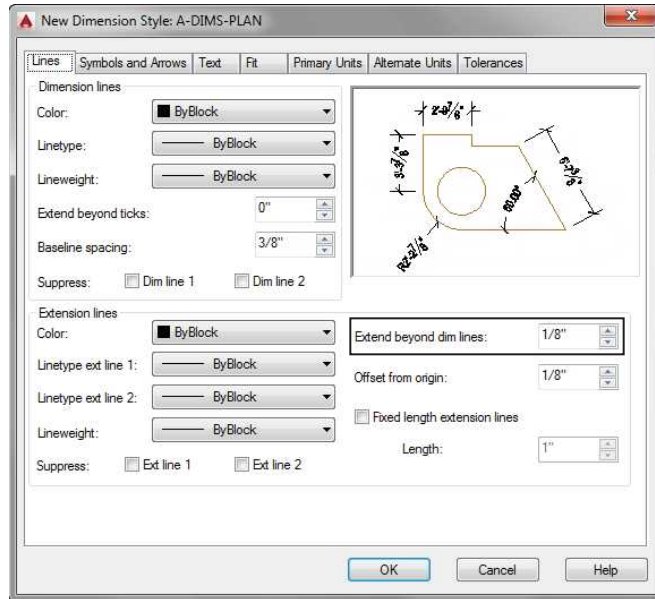

FIGURE 12.5: Configuring the Lines tab of the New Dimension Style: A-DIMS-PLAN dialog box
The Dimension Style: A-DIMS-PLAN dialog box opens (see Figure 12.5). It has seven tabs, which you will use to define the appearance of the dimensions for your cabin project.
6. Verify that the Lines tab is active (on top). If it's not, click it, and change the following parameters to match Figure 12.5: